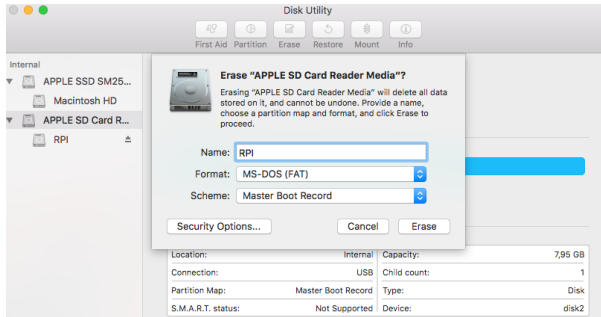

Figure 1-1 Preparing SD Card.
- Open “disk utility”, select the SD Card and Erase (Format MS-DOS FAT) as shown in Figure 1-1.